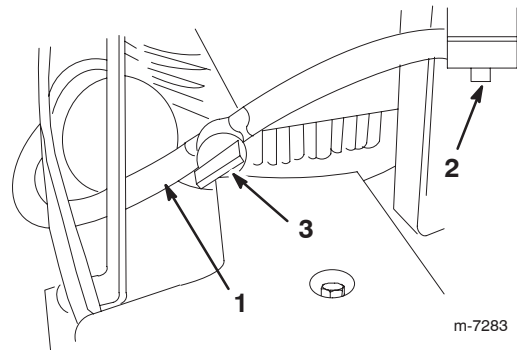

Figure 4
- Remove the red cap from the end of the fuel line and from the end of the elbow fitting on the fuel tank (Fig. 4).
- Slide the end of the fuel line onto the elbow fitting (Fig. 4).
- Secure the fuel line in place with the fuel line clamp (Fig. 4).